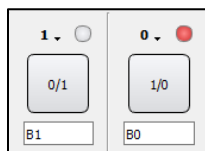

Figure 5: Buttons
**Buttons:** Configure Digital I/O signal 1 into a release/press button by selecting 1, button, 0/1 as seen in Figure 5. Do the same thing with Digital I/O signal 0 but this time select 1/0 as seen in Figure 5. Observe the dot in the upper right corner when you press the button. With button 1, it is 0V when released and 3.3V when pressed. With button 0, it is 3.3V when released and 0V when pressed. Unlike normal buttons and switches, there is no bounce generated.